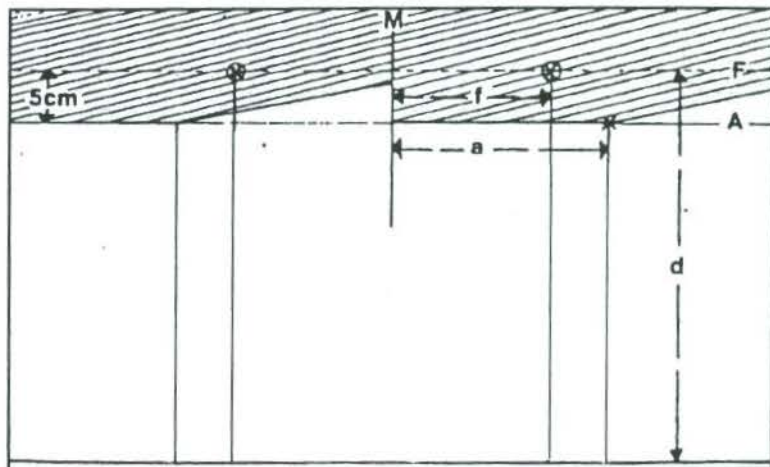

Fig. 8.9 – Adjusting diagram for the headlamps (refer to text).
- If both headlamps must be adjusted, transfer the centre point of each headlamp to the wall or door by measuring from the ground to the headlamp, the dimension between the headlamps, etc. The vehicle must be 10 m away from the adjusting area. Prepare the area in accordance with Fig. 8.9. Mark the headlamp centre point "d" through a line "F", after you have measured the distance from the ground to the headlamp centre.